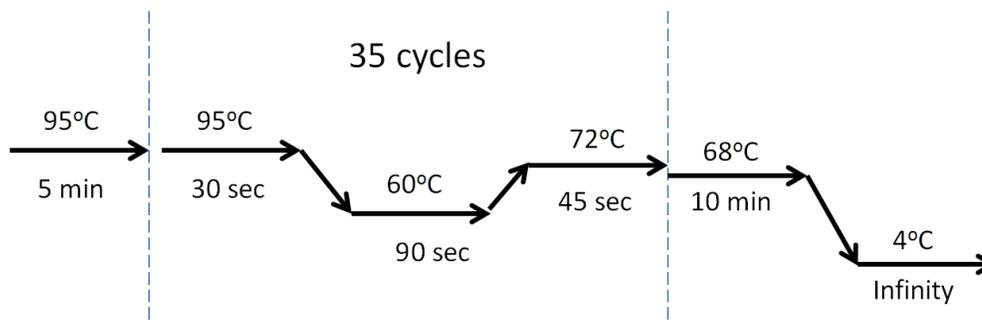

Figure 5 CarrierScan mPCR thermal cycler protocol (Stage 1A).
1. Power on the thermal cycler that is programmed with **CarrierScan mPCR** protocol (see Figure 5). Ensure that the heated lid option has been selected.